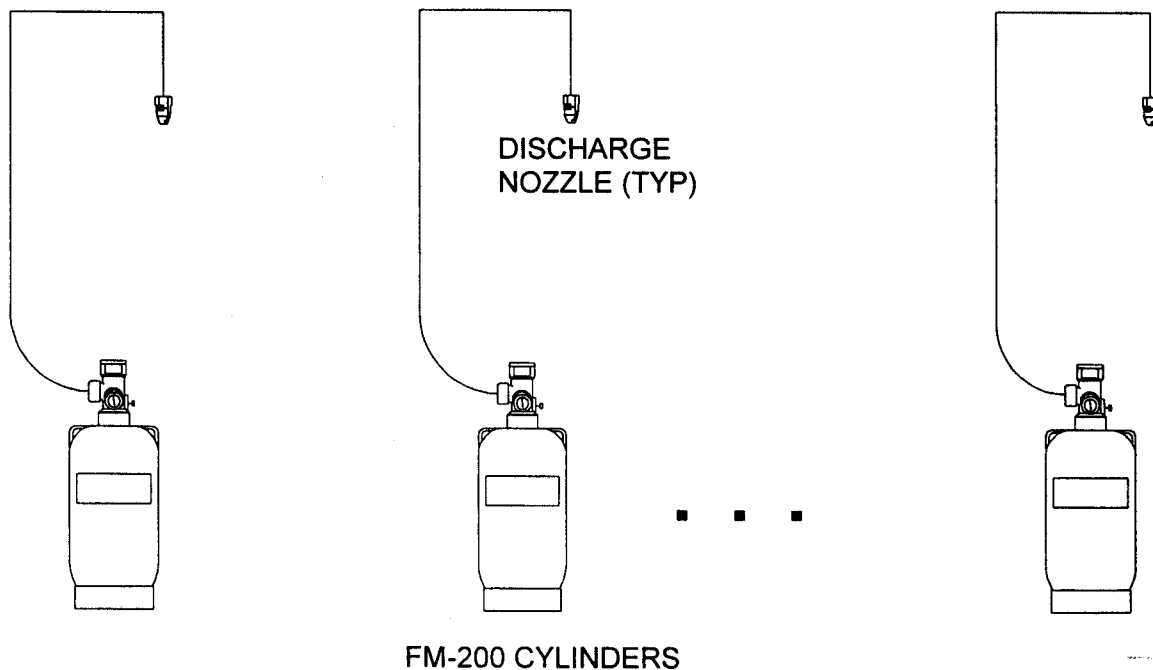

Figure 3.8.2 - Storage in multiple locations (actuation components not shown).
3.8.2 Storage in Multiple Locations. FM-200 cylinders may be located remotely from each other (see Figure 3.8.2). Instead of sharing a manifold, the cylinders in this type of system each have separate piping and nozzle(s).